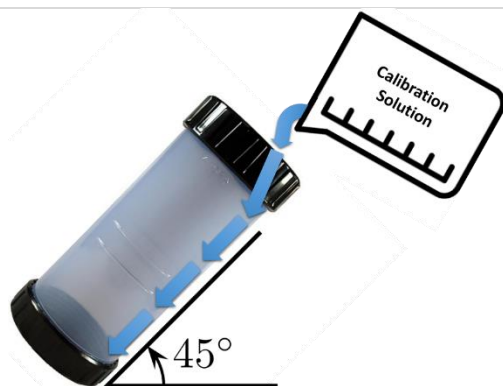

Figure 101. Pour Solution at an Angle to Decrease Aeration
**Tilt the calibration cup and pour the solution at a 45° angle slowly to decrease aeration (Figure 101).**